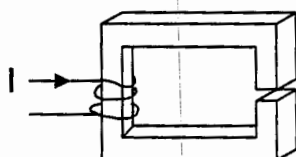

Fig. 9
- (b) The magnetic core shown in Fig. 9 has a 1 mm air gap halfway on the right side. It has uniform 2-cm square cross section. The mean core length is 42 cm, there are 900 turns and the relative permeability  $\mu_r = 800$ . Calculate the coil current required to produce a flux of  $800 \mu\text{Wb}$  in the air gap.